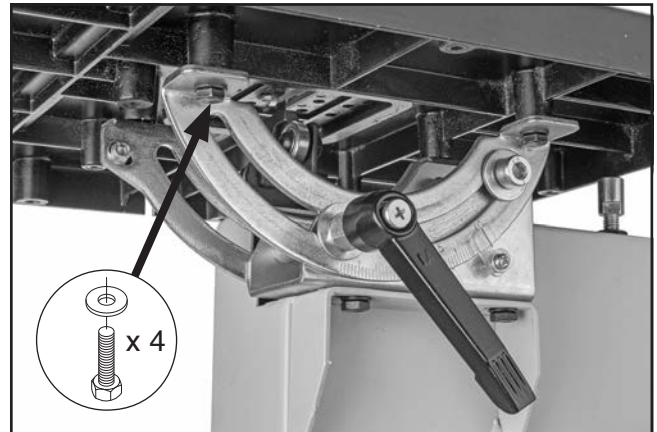

Figure 33. Location of trunnion hex bolts.
5. Loosen trunnion hex bolts that secure table (see **Figure 33**).
3. Determine which trunnion is on low side of table, then remove two hex bolts (see **Figure 33** on **Page 26**) from low trunnion.